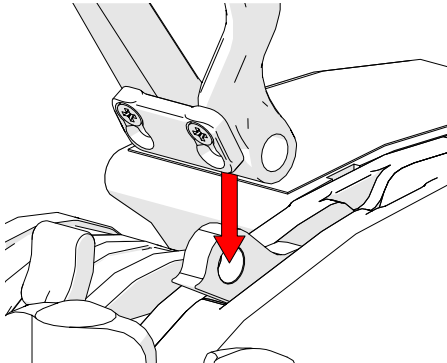

Fig. 12 - Align shackle with tether holes
3. Slide the shackle around the tether attachment point (Fig. 12).